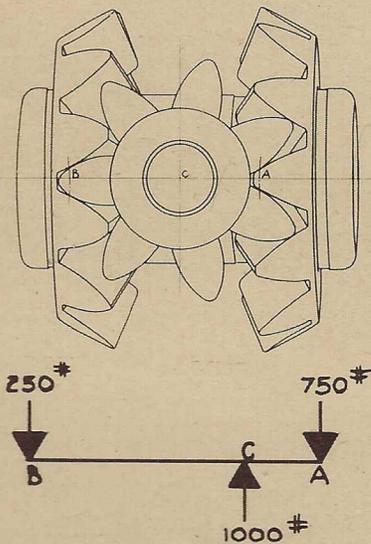

Fig. 1
Notice in the diagram that point (A) is closer to the center line of the point of power applied than is point (B). This condition is similar to that found in Fig. 1. The closer the point of lifting is to the end of lever (A),